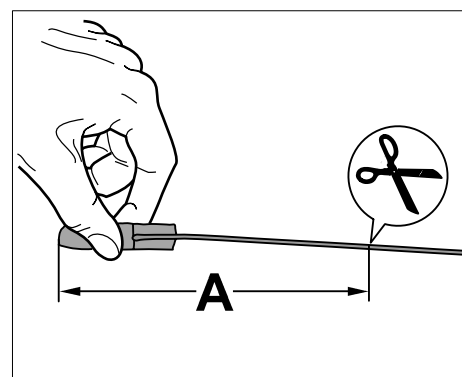

Figure 2
- 2.2 Mark the end piece of the tension rope at $\Rightarrow$ Figure 2 **-Distance A = 18 cm-** using a white marker and measuring tape. Then cut the tension rope at the marking using a scissors.